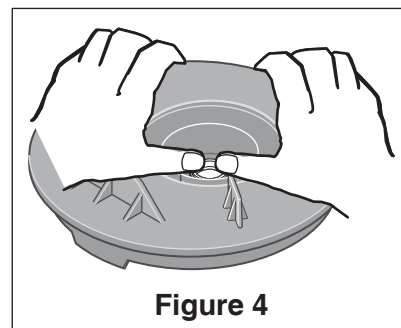

Figure 4
11. Remove the four (4) screws securing the seal plate to the motor.
12. Place seal plate face down on a flat surface and tap out white ceramic seal (see **Figure 4**).